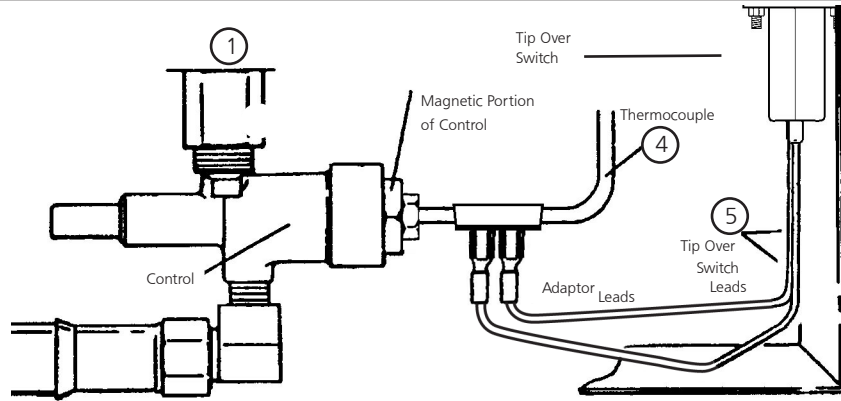

Figure 2
This heater incorporates a "Tip Over" switch which automatically shuts off the burner in the event of tipping. Ensure that this switch is in the vertical position and is secured with the screws provided (see Fig. 2). **DO NOT operate this heater with the LP-gas supply cylinder in any other than the upright position.**
- Loose wires on tipover switch. (see Fig. 2)